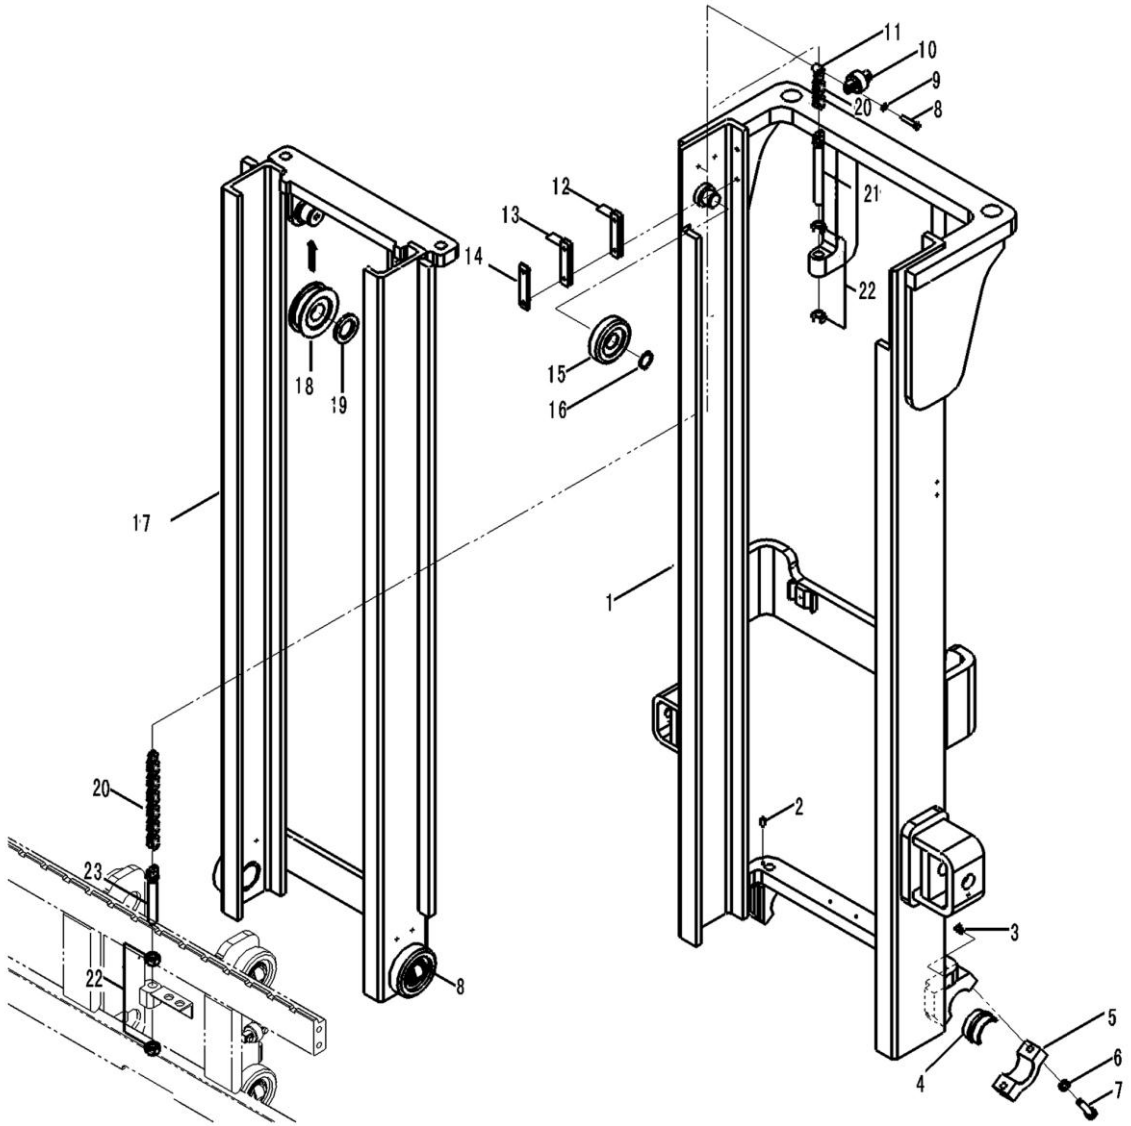

Fig.8-1 Inner and outer mast
8.1.1 Inner and outer masts (Fig.8-1)